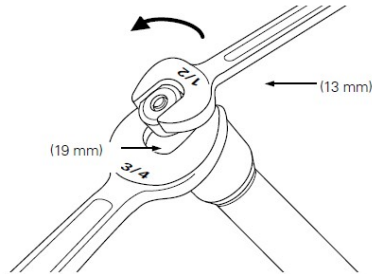

figure 8-8 Remove end plug from fuse cartridge
- A slight resistance may occur when inserting fuse link into cartridge. Refer to A and B in "figure 8-8 Remove end plug from fuse cartridge"
- Tighten fuse contact flare end against fuse cartridge holder using 50-70 in-lbs (5.65-7.9 Nm) of torque. (Refer to C in "figure 8-8 Remove end plug from fuse cartridge").
- Replace end plug on other end of fuse cartridge and tighten to 50-70 in-lbs (5.65-7.9 Nm) torque. (Refer to D and E in "figure 8-8 Remove end plug from fuse cartridge").
- Remove end plug and ensure that leaves of tulip tip have spread uniformly (Refer to F in "figure 8-8 Remove end plug from fuse cartridge").
- Replace end plug applying 50-70 in-lbs (5.65-7.9 Nm) torque to both connections (Refer to D and E in "figure 8-8 Remove end plug from fuse cartridge").